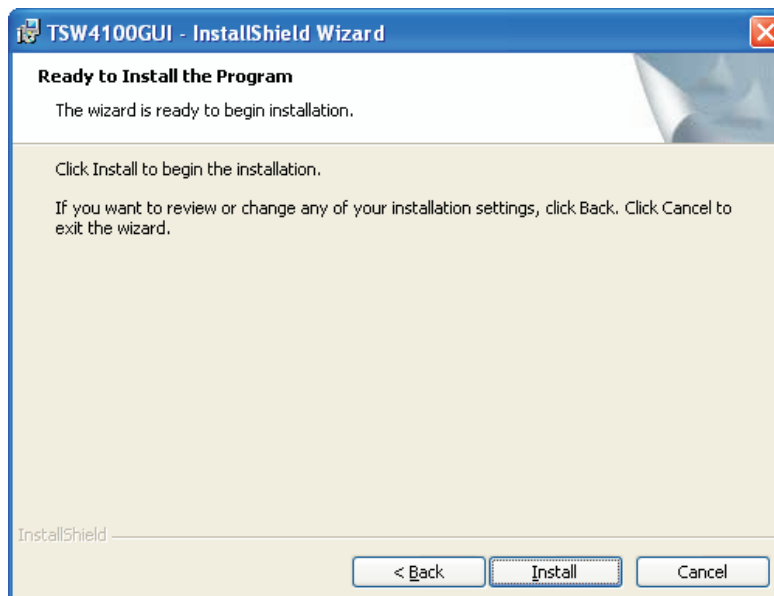

Figure 12. Ready to Install the Program
5. On the Ready to Install the Program (Figure 12) display, click *Install*. The installation takes between one and three minutes to complete.